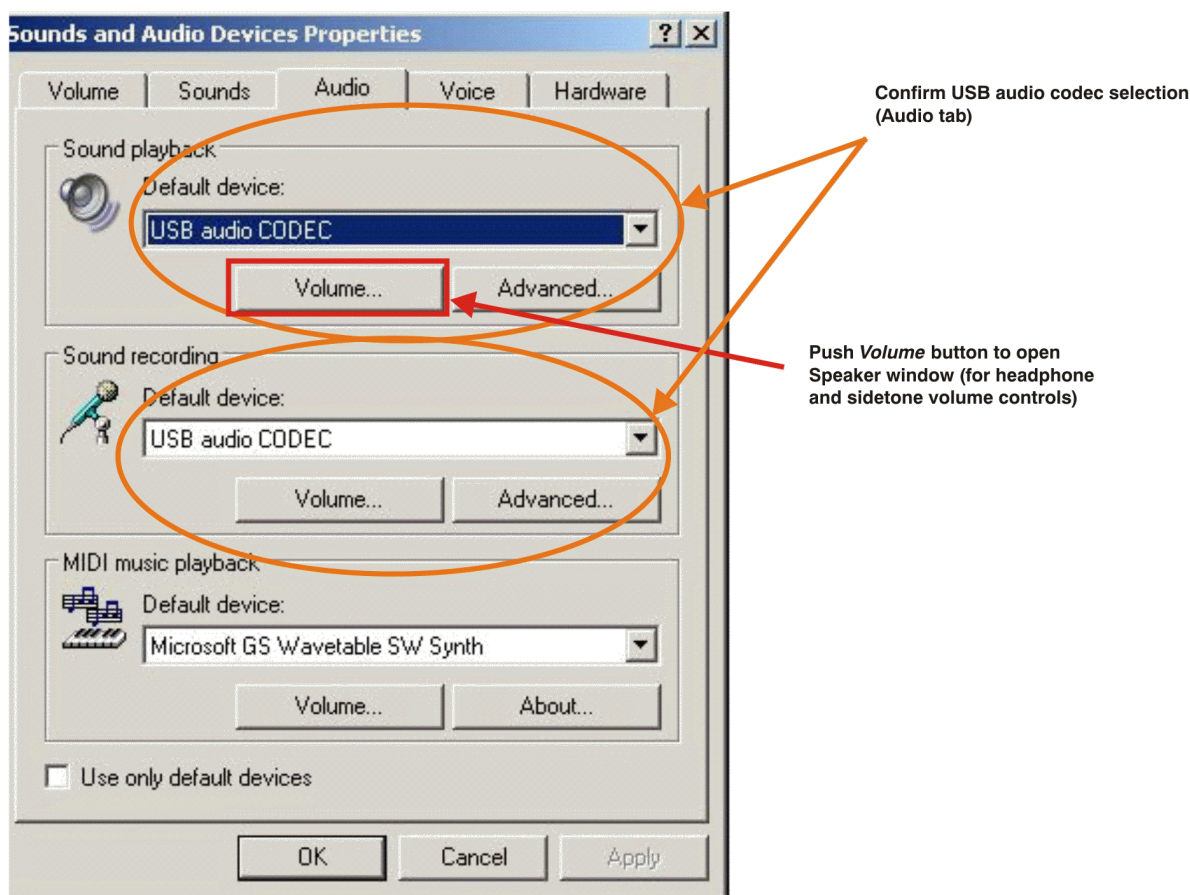
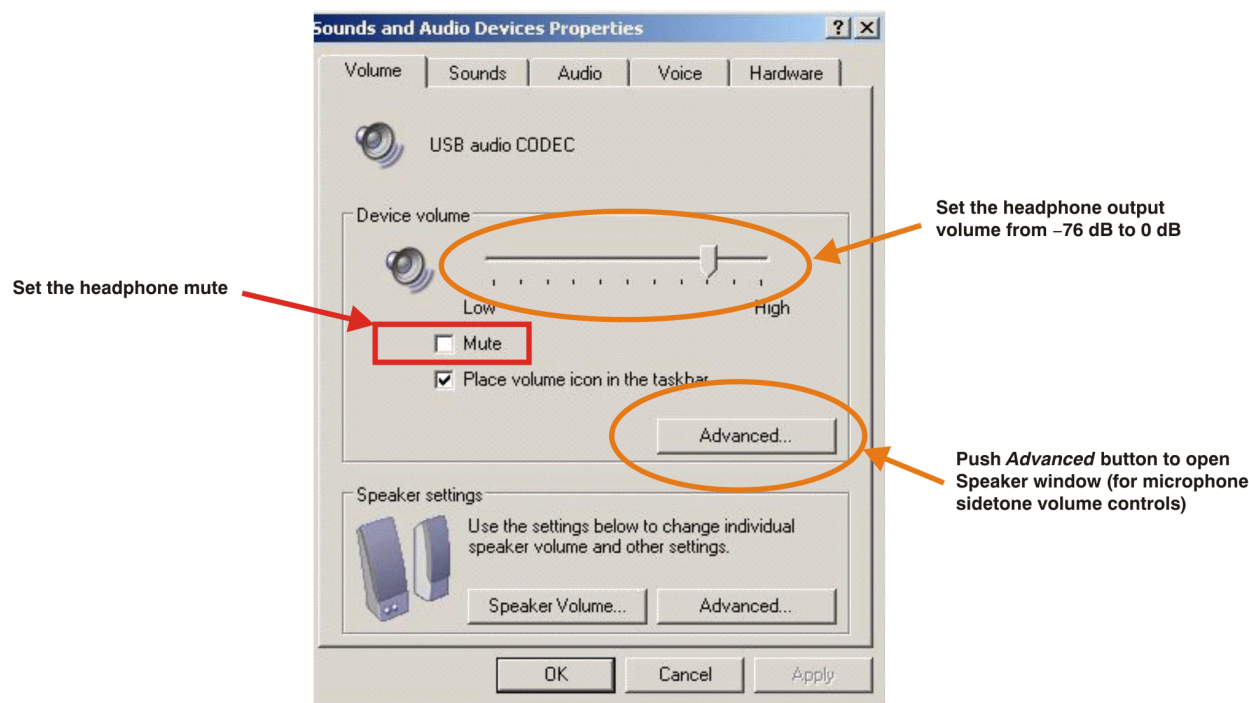

Figure 3-7. Sound and Audio Devices Properties—Audio Tab (Windows XP)
Figure 3-8. Sound and Audio Devices Properties—Volume Tab (Windows XP)
- Step 3. Select the *Audio* tab and confirm the USB audio codec appearance as the default playback and recording device, as shown in Figure 3-7.
- Step 2. Open the *Sound and Audio Devices Properties* dialog box and select the *Volume* tab, as Figure 3-8 illustrates. Alternatively, open the *Speakers* window from the *Volume* selection box (on the Audio tab) or the *Advanced* selection box (on the Volume tab); see Figure 3-7.
1. Open the *Speakers* options from the *Volume* selection box (on the Audio tab) or the *Advanced* selection box (on the Volume tab); see Figure 3-8. Alternatively, double-click the speaker icon (if displayed) in the lower right-hand area of the Windows taskbar (at the bottom of the screen); see Figure 3-7.